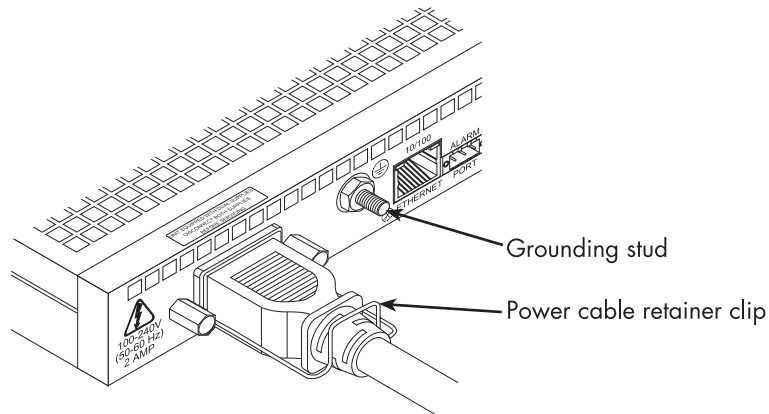

Figure 6. Power cable retainer clip
2. Rotate the power cable retainer clip so it secures the power cable plug in the IEC-320 connector as shown in figure 6.